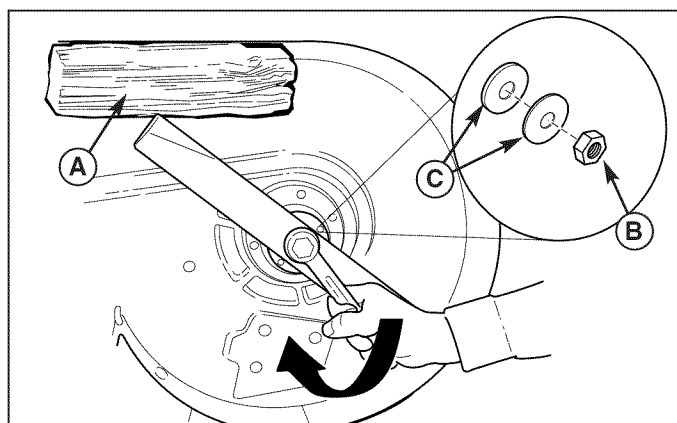

Figure 13. Blade Installation Mowers (42" Mowers)
3. Remove the nut (C, Figure 13), or spring washers (B), and blade.
6. Reinstall the spring washers (B, Figure 13) and nut (C). Use a wooden block (A) to prevent blade rotation while tightening the nut (C) to 70-80 ft-lbs (95-108 Nm).